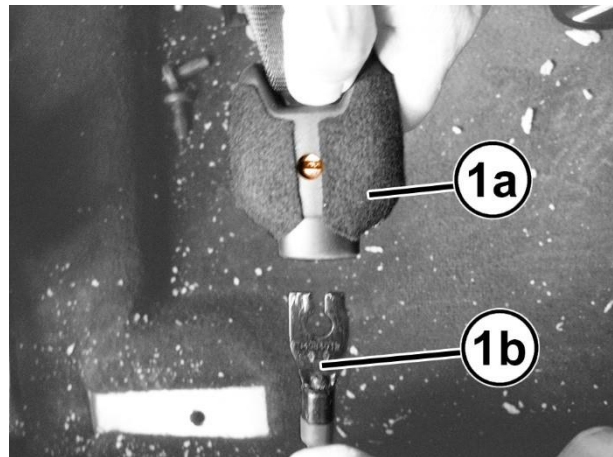

Figure 15 – Seat Belt Anchor
40. Separate the seat belt end (1a) from the corresponding anchor (1b) (Figure 15).